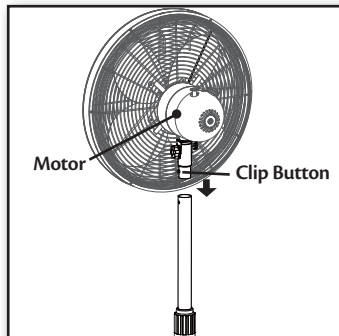

Figure 10
1. Press the clip buttons in completely while sliding the pole from the motor housing assembly into the inner pole until the clip buttons appear through the hole in the inner pole. Figure 10.